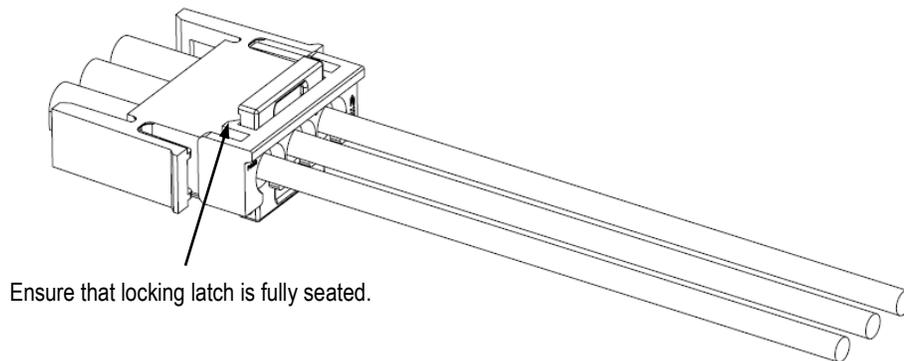

Figure 3
4. Ensure that the TPA accessory is locked in place by visually inspecting the TPA accessory locking latches. The locking latches must be fully seated on the back of the plug housing. See Figure 3.